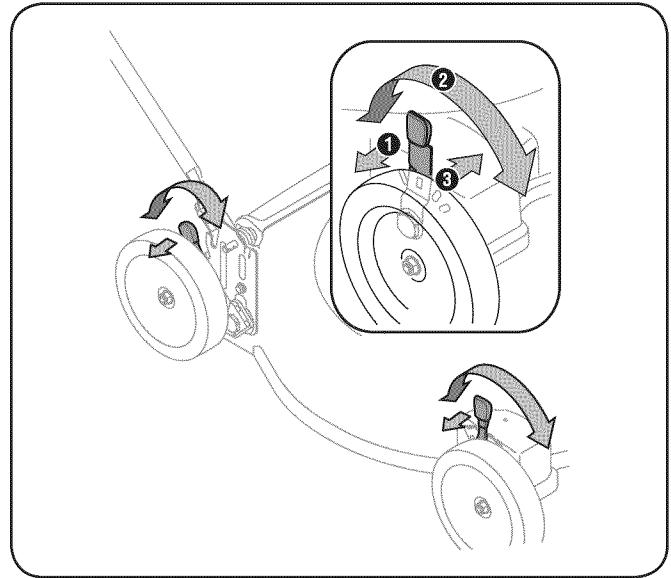

Figure 3-7
2. Move it to any one of the positions for desired cutting height. See Fig. 3-7. Make sure that each wheel is positioned at the same height.